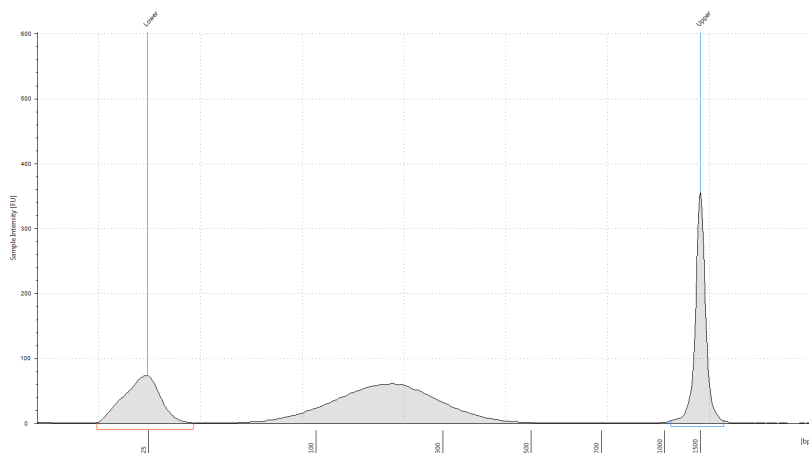

Figure 11 Analysis of sheared DNA using a High Sensitivity D1000 ScreenTape.
- 5 Verify that the electropherogram shows the peak of DNA fragment size positioned between 120 to 150 bp. A sample electropherogram is shown in **Figure 11**.